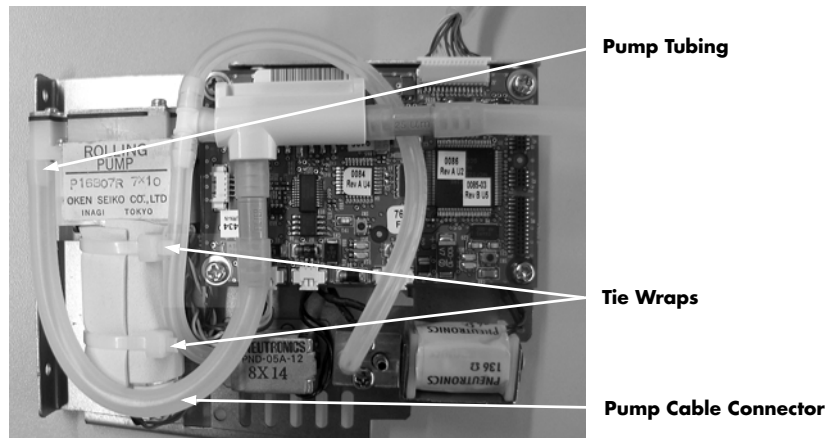

FIGURE 4-35 Cut two (2) tie wraps.
3. Cut the two tie wraps holding the NIBP pump as shown in FIGURE 4-35.